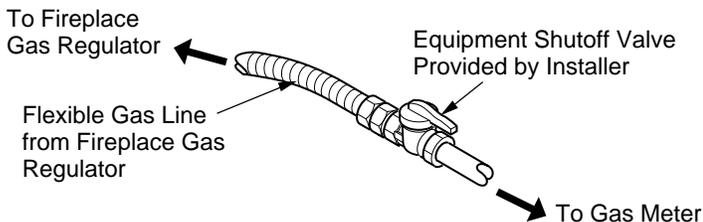

Figure 23 - Attaching Flexible Gas Lines Together
NOTICE: Most building codes do not permit concealed gas connections. A flexible gas line is provided to allow accessibility from the fireplace (see Figure 23). The flexible gas supply line connection to the equipment shutoff valve should be accessible.
2. Apply pipe joint sealant lightly to male threads of gas connector attached to flexible gas line (see Figure 23).
4. Check all joints from equipment shutoff valve to thermostat gas valve (see Figure 23, page 14). Apply noncorrosive leak detection fluid to gas joints. Bubbles forming show a leak.